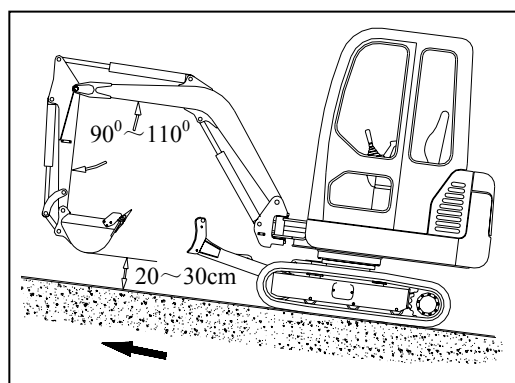

FIG 3-17
- 7) The machine must travel in the pose shown in fig 3-17 when traveling up on a slope of 15° or more.